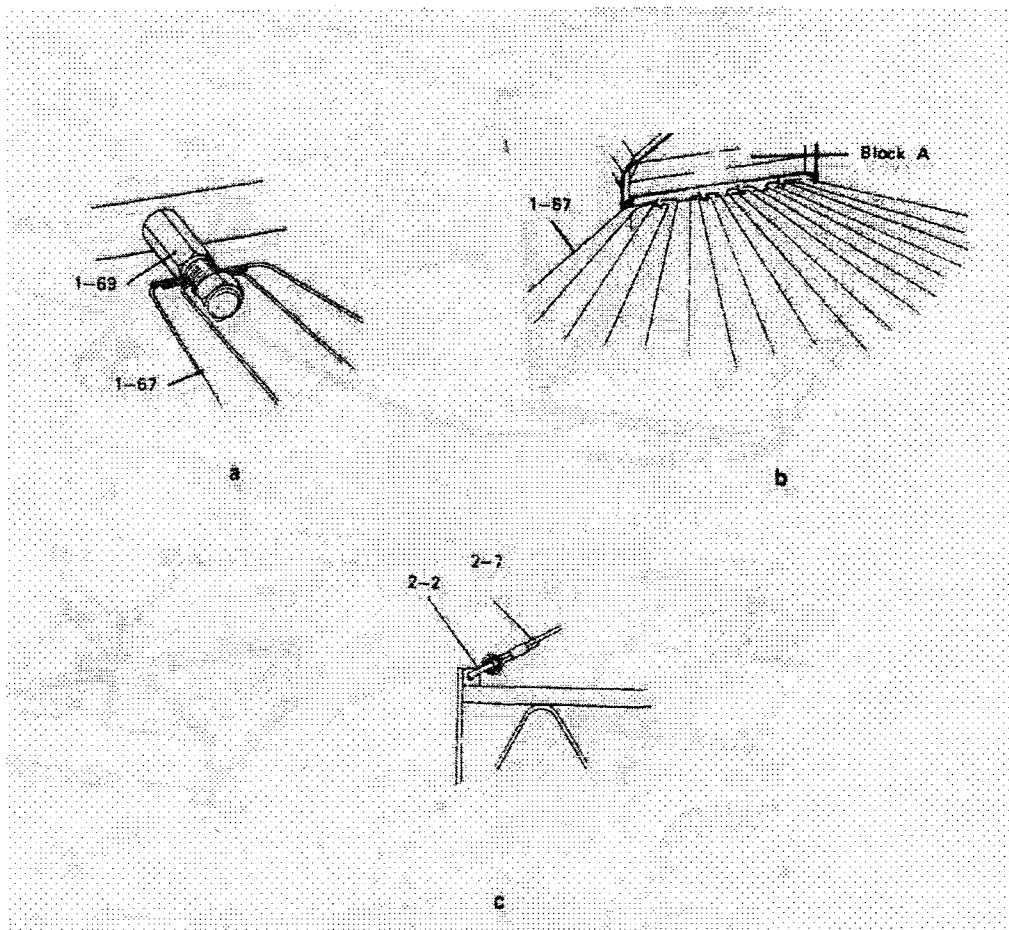

FIGURE 5 – Earth Wires / Preparing the First Mast Section
Step 3 The earth wires (1-67) are now connected to the earth terminal connectors (1-69), as shown in Fig. 5(a). Note that the connectors near the corners of the assembly each have 5 earth wires connected to them as shown in Fig 5(b). Arrange the earth wires on both sides of the earth terminal connectors see Fig. 5(a). Fig. 5(b) shows how the earth wires should be laid out away from foundation Block A. They are to be buried to a depth of approximately 150mm
- Step 4 The first mast section should be laid on the ground near to foundation block A. Attach the temporary mast guys (2-7) to the top of the mast section by use of D shackles (2-2), as shown in Fig. 5(c).